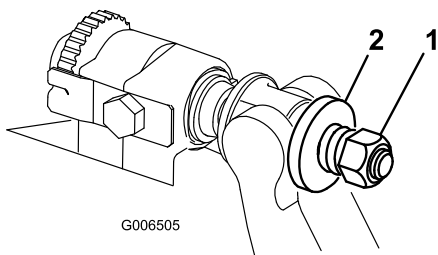

Figure 20
6. Tighten the spring tension nut until the spring is collapsed, then back it off 1/2 turn (Figure 20).